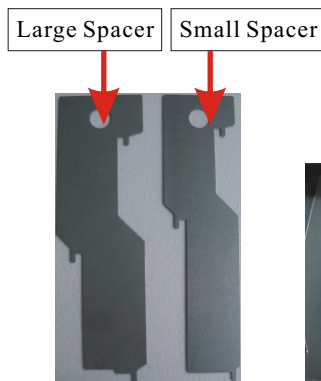

Figure 20 Spacer
- c. To load short cans or bottles, spacers must be inserted in the front and back sections. D4 uses a thin spacer, D5 /D6 uses a wider spacer (*Figures 20, 21 and 22*).